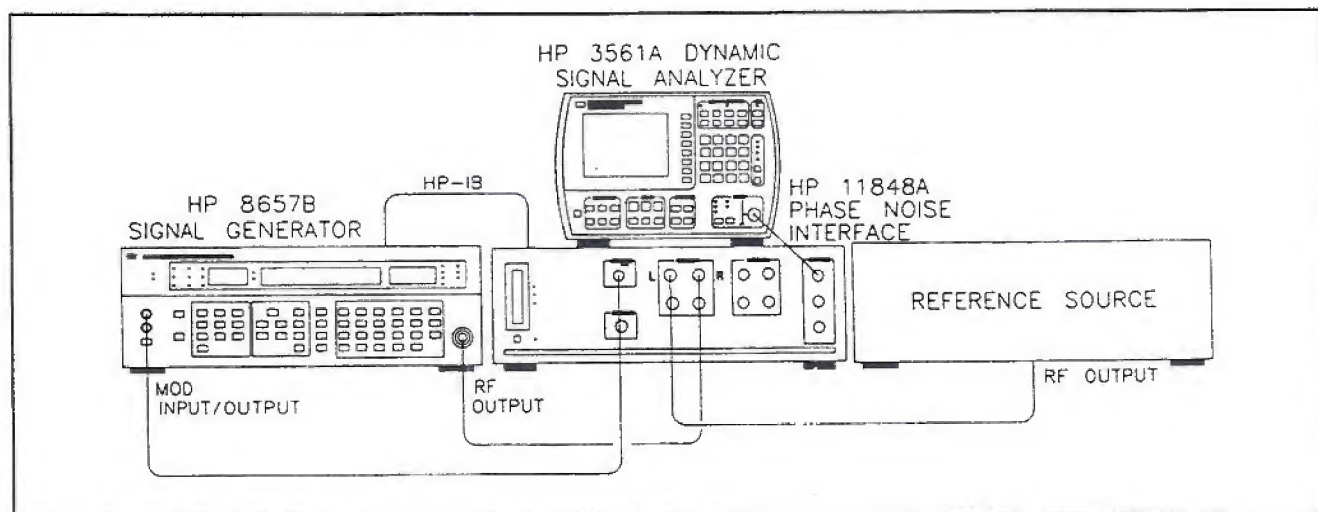

Figure 4-7. Setup Diagram for SSB Phase Noise Measurement
12. When the hardware connect diagram appears in the display, connect the Signal Generator and reference source to the HP 3048A as shown. (Note that the reference source is labeled USERS's DUT on the screen. Figure 4-7 also shows the cable connections for this measurement.)